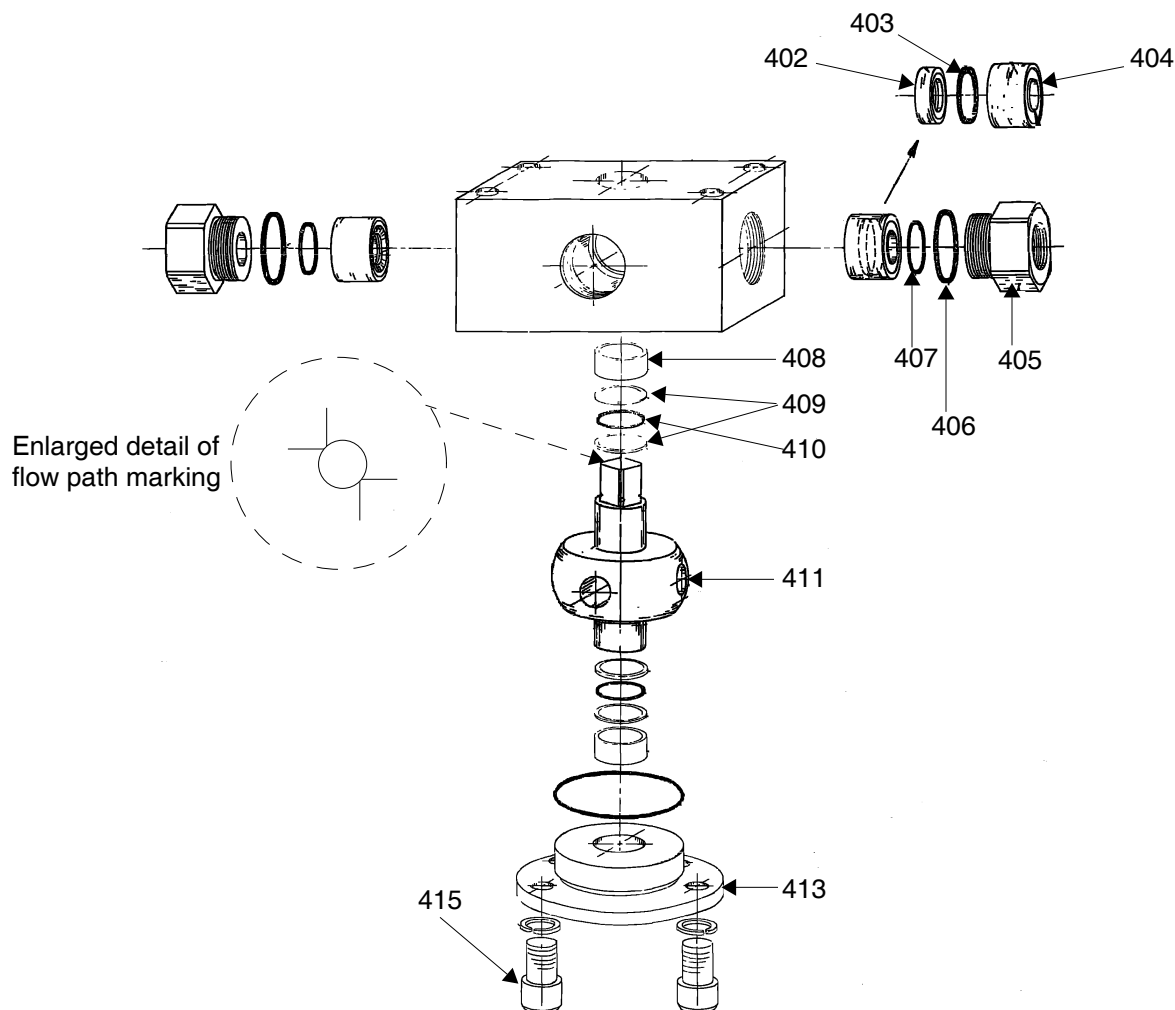

FIG. 35
3. Remove 4 socket head cap screws (415, FIG. 35).
4. Pull off end cap (413).
5. Pull out ball passage (411) with backup ring (409), packing o-ring (410), and bushing (408).
6. Remove packing assemblies consisting of seal (402), o-ring (403), bushing (404), o-rings (406, 407), and connector (405).